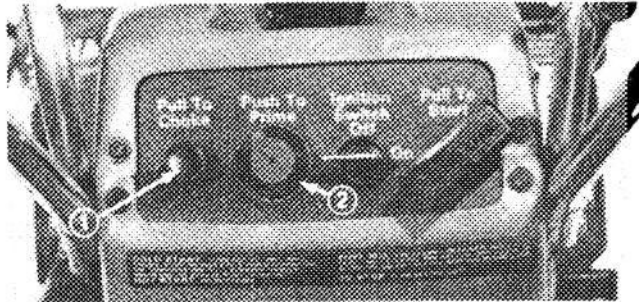

Figure 6
2. Pull choke out (Fig. 6).
3. Put thumb on center of primer so hole is covered and sealed (Fig. 6). Depending upon temperature at which the machine is stored, push the primer one to two times. For temperatures above 0° F (-18° C) use one prime and below 0° F (-18° C), use two primes. In colder conditions more primes may be necessary.
4. Turn ignition key to ON (Fig. 6).
5. To start S140 Recoil Start, put one hand on the lower handle to steady the snowthrower. Next, grasp recoil starter handle (Fig. 6) and pull vigorously to start engine. If engine does not start after four pulls, prime engine again as described and pull recoil starter handle four more times. Repeat this procedure until engine starts.
1. Turn ignition key to OFF (Fig. 6).